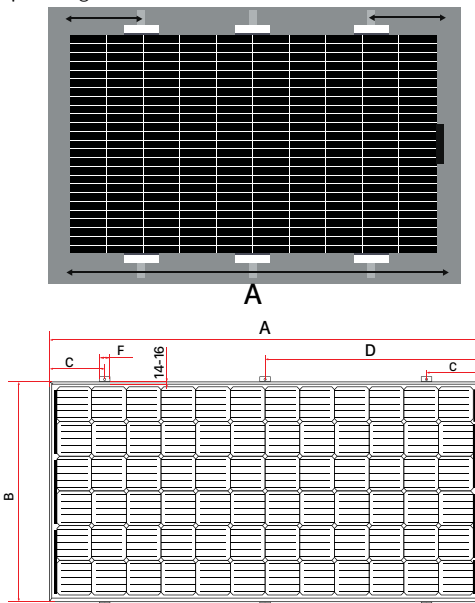

Figure 8. Position of clamp mounting/ Vị trí của kẹp giá đỡ
- In case of heavy snowfall, relatively large snow load or large wind pressure exist in the module installation area, IREX suggests the customer to selecting the 5400 Pa strengthening installation scheme to clamp and fix the module (as shown in figure 8) to improve the bearing capacity of the module for static snow load at front side and dynamic wind pressure at back side, and enhance the system capacity.